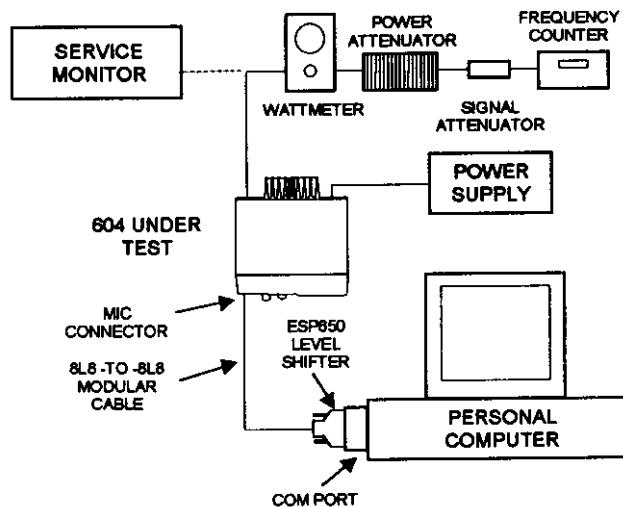

Figure 13.1 Transmitter Test Setup
1. Connect the equipment per Figure 13.1. Launch the ESP604 DataManager.